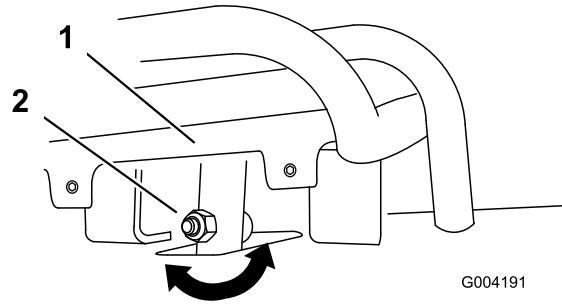

Figure 52
4. If the front of the traction control does not rest square and flush with the reference bar, loosen the flange nut and bolt in the stem of the traction control (Figure 52).
5. Adjust the traction control so that it rests flush against the reference bar when it is pulled straight back (Figure 52 and Figure 53).